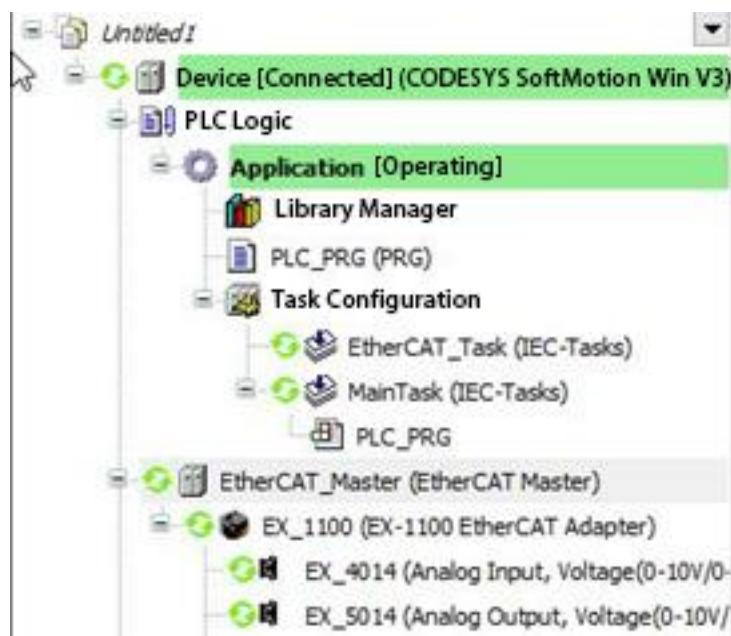

Figure 5-1-26 Monitoring results
5. The program is downloaded, run and monitored. The monitoring results are shown in Figure 5-1-26.